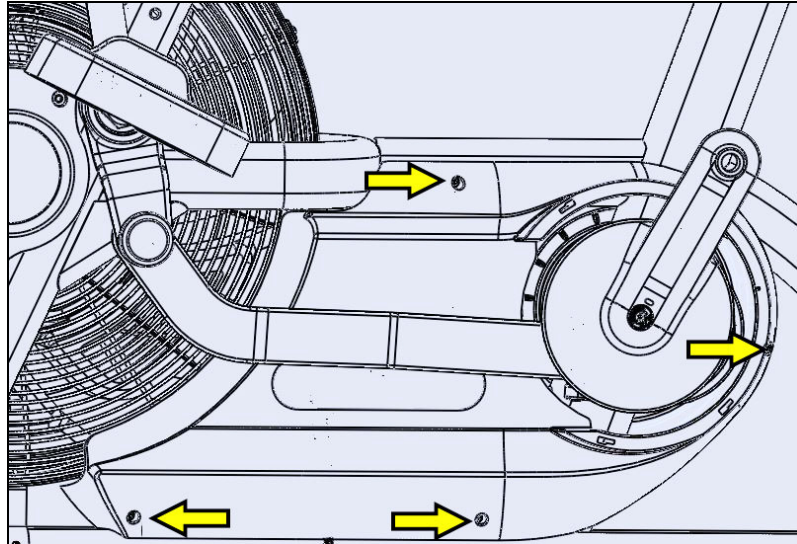

Fig. 3
- Using a Phillips head screw driver, remove (4) screws holding the user left side shroud (Fig. 3). Shrouds will be removed in a later step.